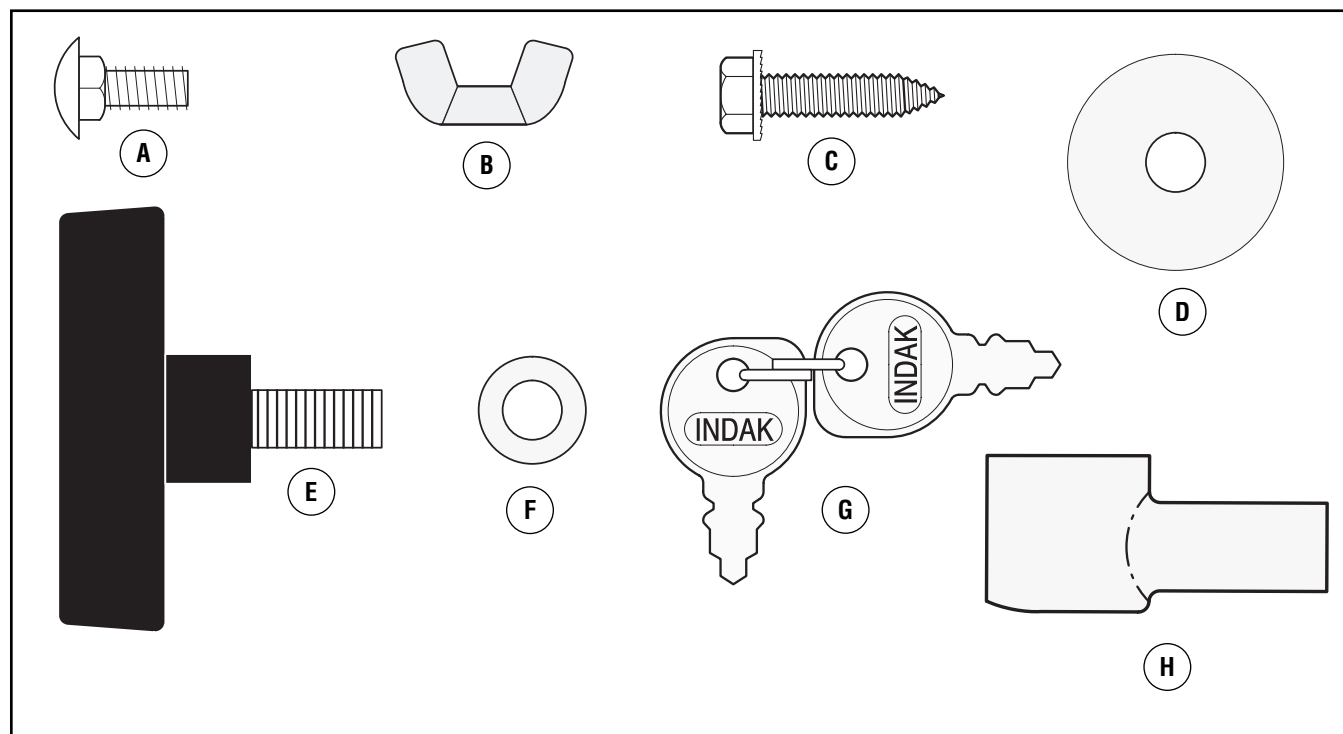

Figure 3: Parts bag components
A - Wing bolt (Also see 'E' in Figure 3)
B - Washer (Also see 'F' in Figure 3)
A - Screw (Also see 'C' in Figure 3)
B - Washer (Also see 'D' in Figure 3)
- A - Carriage bolt (Also see 'A' in Figure 3)
- B - Wing nut (Also see 'B' in Figure 3)
H - Terminal cover (Also see 'H' in Figure 3)